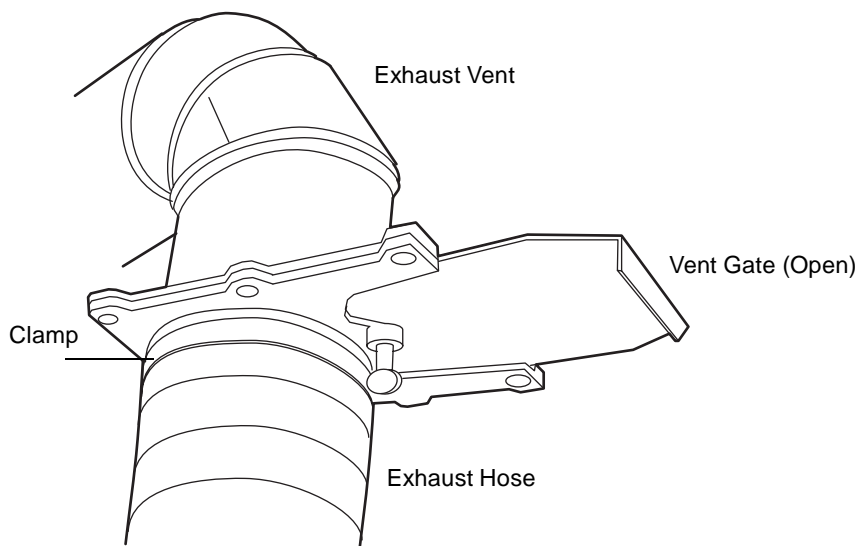

Figure 2-1 Connecting the Vent Gate
7. If the system is on a bench top, connect it to an exhaust vent (Figure 2-1):